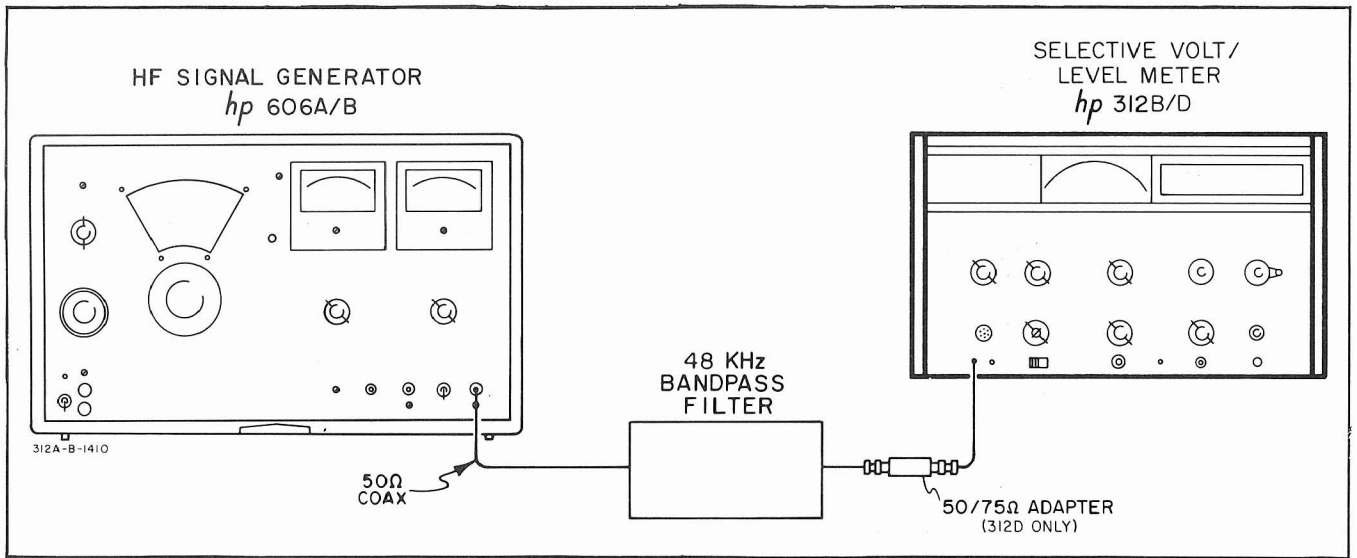

Figure 5-7. Harmonic Distortion Test Setup.
a. Connect the equipment as shown in Figure 5-7 and set the 312B/D controls as follows: